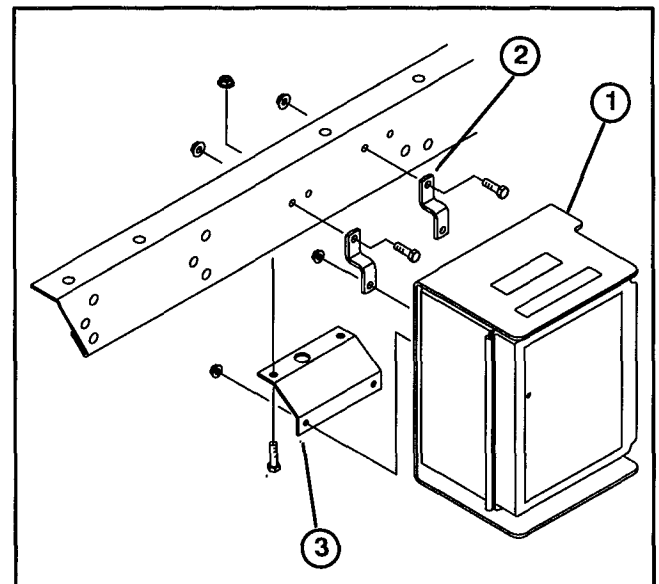

Figure 12
45. Loosely secure (2) mounting tabs and mounting bracket to control box bracket with (4) 1/4-20 flange locknuts, as shown in figure 12.
46. Mount control box assembly to left frame rail with (4) 5/16-18 x 3/4" lg. capscrews and nuts (Fig. 12).